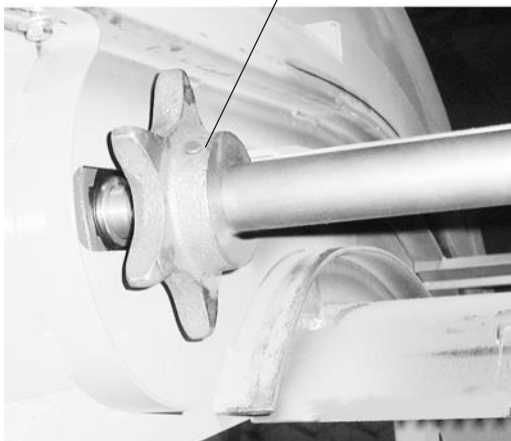

Figure 15. Removing the Sprocket Pin
9. Facing the discharge opening, pull on the lower half of the metal belt until the upper run clears the headshaft; lower the lower run to rest on the upper curve (Figure 15).
13. Via the discharge opening, drive out the sprocket pin on the drive end of the headshaft (Figure 15). With the sprocket now free to move, slide the sprocket toward the non-drive side of the headshaft. (Or remove the sprocket key if the unit is so equipped.)
- Remove the axle from the non-drive side as shown in Figure 15. Install the axle and pins, and
6. Refer to Figures 15 and 14 and install the axle, rollers, axle pins and side wings as follows:
- Install the axle through the take-up slot and roller as shown in Figure 15.